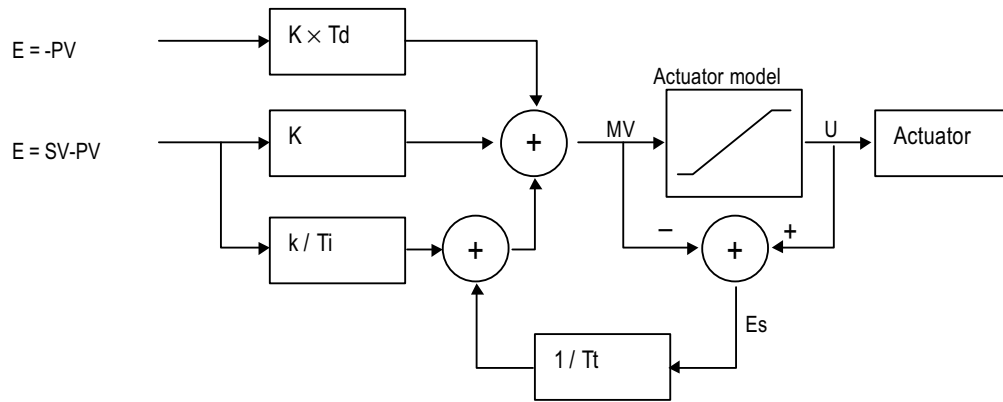
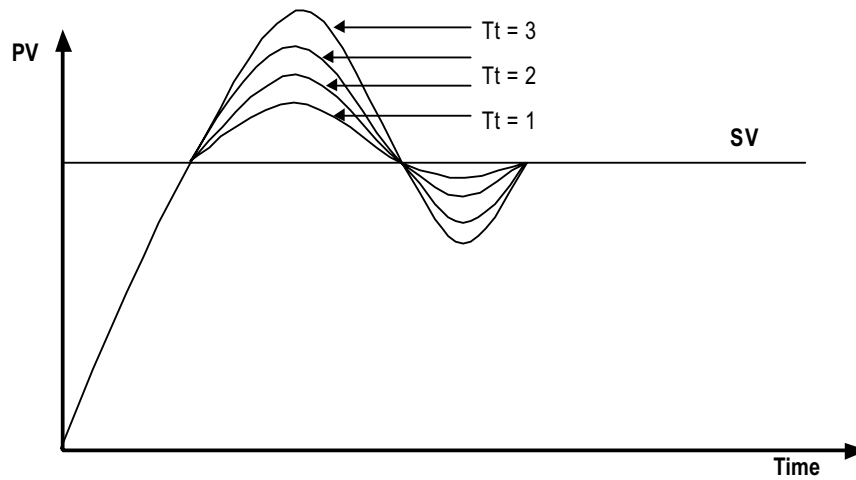

Fig. 2-13 The block diagram of anti-windup control system
Fig. 2-14 The PV output characteristics with different Tt values.
There are several methods to avoid the windup of actuator. The most popular two methods are adding another feedback system to actuator, and using the model of actuator. The Fig. 2-13 shows the block diagram of the anti-windup control system using the actuator model.
As shown in the Fig. 2-13, the anti-windup system feedback the multiplication of gain ($1/T_t$) and E_s to the input of integral term. The E_s is obtained as the difference value between actuator output (U) and manipulation value of PID controller (MV). The T_t of the feedback gain is tracking time constant, and it is in inverse proportion with the resetting speed of integral term. Smaller T_t will cancel the windup of actuator faster, but too small T_t can cause anti-windup operation in derivative operation. The Fig. 2-14 shows several T_t value and PV in the PI control system.